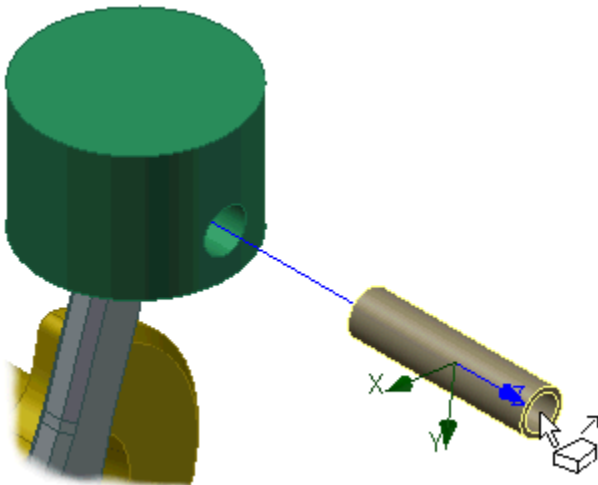

Figure 3: Wrist pin tweak.
4. Drag the wrist pin to the right to match the position shown in Figure 3.